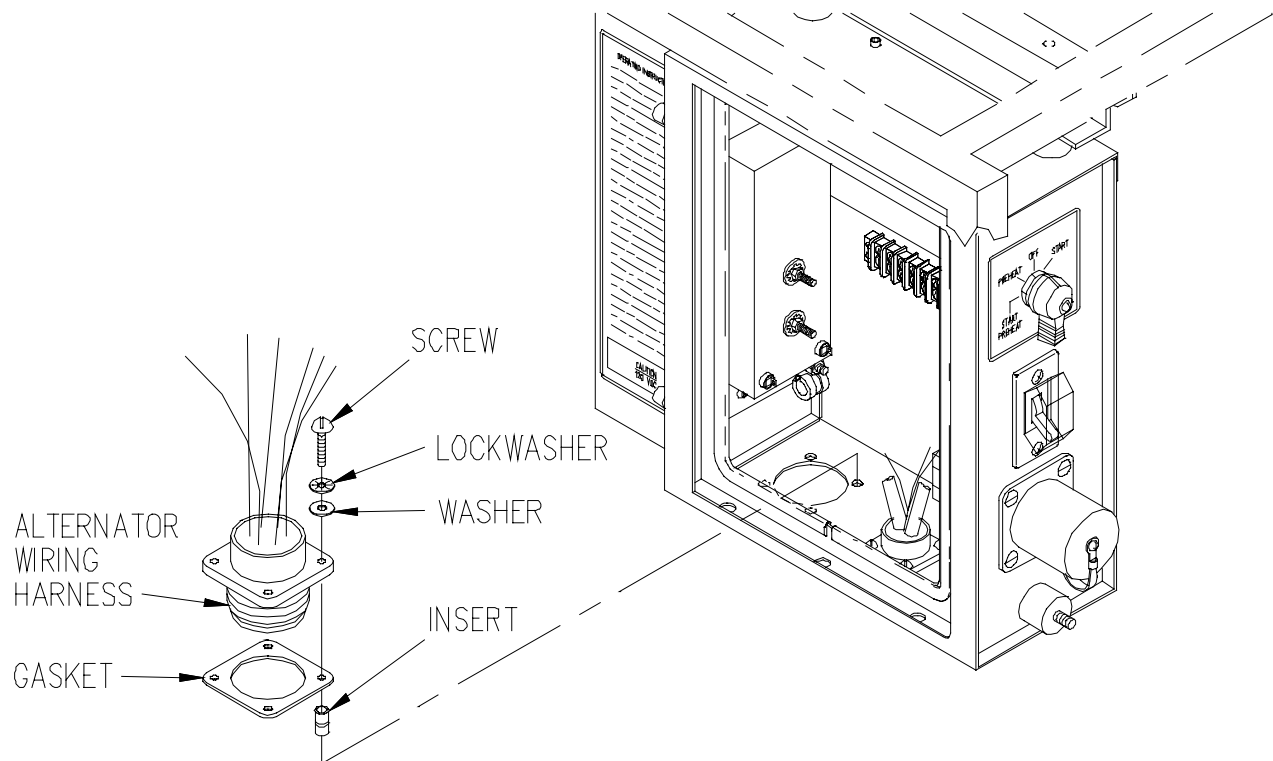

Figure 4-43. Alternator Wiring Harness and Gasket, Control Panel
- (1) Shut down generator set.
- (2) Release instrument panel by turning fastener, open instrument panel slowly.
- (3) Disconnect alternator wiring harness plug (P1) from receptacle (J1) of control panel alternator wiring harness (Figure 4-43).
- (4) Set multimeter for ohms and check for continuity between J1 pin A and TB1 connector 13, J1 pin B and EMI filter load terminal lug N, J1 pin C and TB1 connector 14, J1 pin D and TB1 connector 15, J1 pin E and TB1 connector 8, and J1 pin F and TB1 connector 9. (MEP-531A).
- (5) Set multimeter for ohms and check for continuity between J1 pin A and shunt resistor (R3), J1 pin B and TB1 connector 10, J1 pin D and TB1 connector 11, and J1 pin C and load terminal lug (-). (MEP-501A).
- (6) If necessary, repair wiring harness. Then connect alternator wiring harness plug to control panel alternator wiring harness receptacle.
- (7) Close and secure instrument panel.
- (3) Disconnect alternator wiring harness plug from receptacle of control panel alternator wiring harness (Figure 4-43).
- (4) Cut cable ties as necessary.
- (5) Tag and disconnect electrical leads for control panel alternator wiring harness from terminals 8, 9, 13, 14, and 15 of TB1, and EMI filter load terminal lug N. (MEP-531A)
- (6) Tag and disconnect electrical leads for control panel alternator wiring harness from terminals 10 and 11 of TB1, shunt resistor (R3), and load terminal lug (-). (MEP-501A)
- (7) Remove screws, lockwashers, washers, control panel alternator wiring harness, and gasket from control panel.
- (8) If necessary, remove threaded inserts from control panel.
- (1) If removed, install threaded inserts (Figure 4-43) in control panel.
- (2) Install gasket and control panel alternator wiring harness in control panel with washers, lockwashers, and screws.
- (3) Connect alternator wiring harness plug and control panel alternator wiring harness electrical leads. Remove tags.
- (4) Replace cable ties as necessary.
- (5) Close and secure instrument panel.